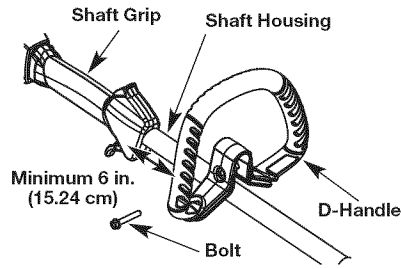

Fig. 1
- Loosen the bolt on the handle just enough to move it (Fig. 1).
- Tighten the bolt until the D-handle is secure (Fig. 1).